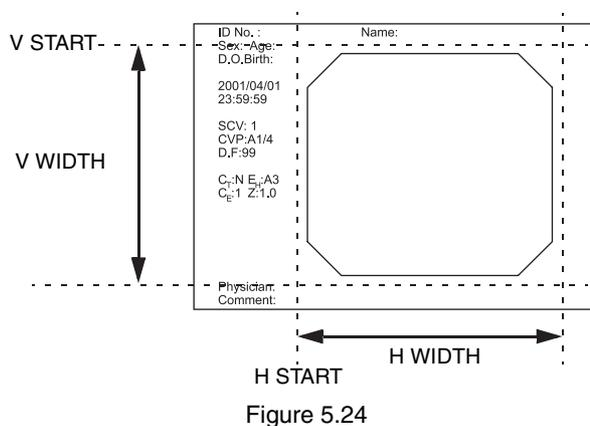

Figure 5.24
When an HDTV signal is input to this instrument and 4 multi-picture images are to be printed, this menu can be used to zoom into one or all of the images by setting the image capturing range. For the relationship between the image capture positions and settings, see Figure 5.24. This setup should be performed while referring to the memory image displayed in the background of the menu.
- 3 Repeat steps 1 and 2 to set the image capturing range (see Figure 5.24).